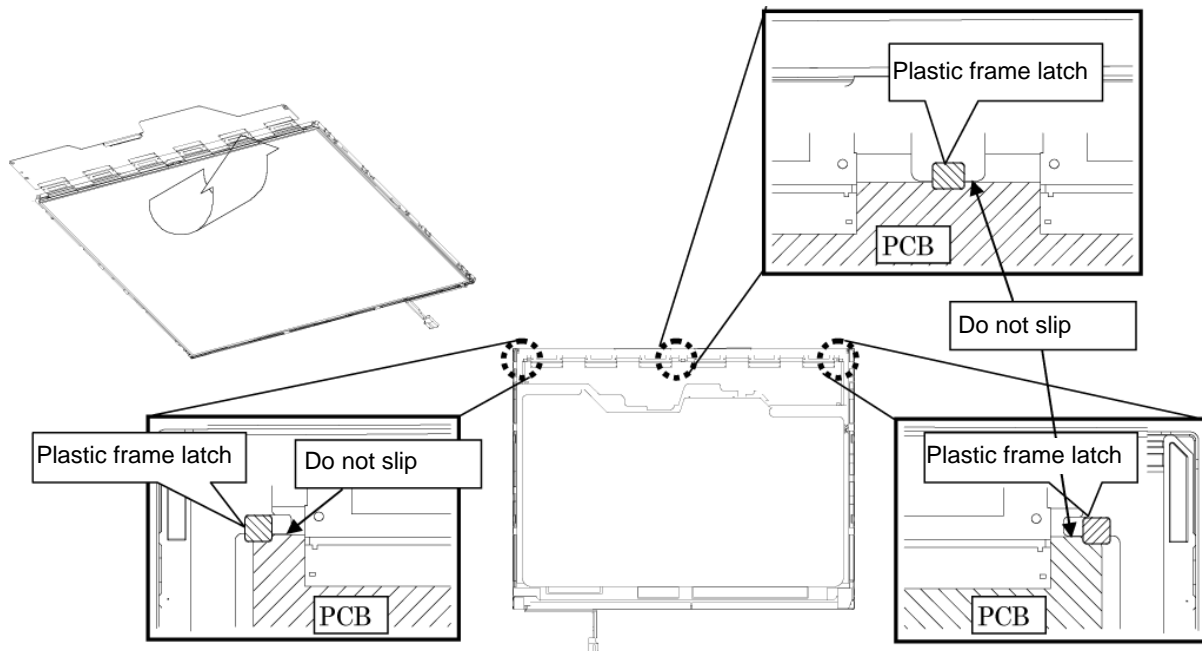

Figure 4-60 Replacing 14.1 Inch TMD fluorescent lamp (SXGA+) (8)
1. Fold down the TAB (PCB) toward the reverse side of the backlight unit and hook the plastic frame latches, as shown in Figure 4-60.